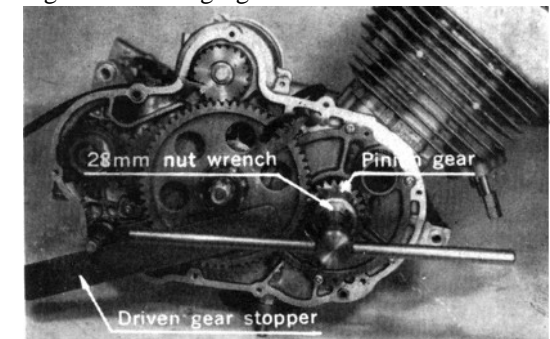

Fig. 21 Removing pinion gear (left-hand thread)
7. Remove the left-hand threaded pinion gear nut with the driven gear stopper and 28mm nut wrench (special tool) and then remove the pinion gear. (Fig. 21) Then, remove timing gear fitting bolt, timing gear, driven gear and kick idler gear.